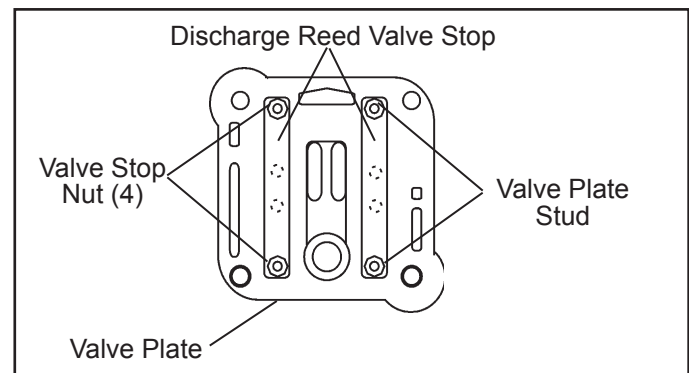

Figure 2 – Bendix® BA-921® Compressor Valve Plate
- Note:** In some instances it may be necessary to disassemble the discharge reed valves and valve stops to remove carbon. In that case refer to *Figure 2* and:
7. Note the position of the protruding alignment pins on the cylinder block. Install the metal inlet reed valve/gasket (2) over the alignment pins on the cylinder block.
9. Position and install the metal gasket (1) over the guide bushings protruding from the valve plate side of the cooling plate assembly. When properly installed, the outline of the gasket matches the outline of the cooling plate. Install the cooling plate with gasket (1) on the valve plate using the cooling plate guide bushings to locate and position both parts correctly.
10. Install the remaining gasket (1) over the guide bushings on the exposed side of the cooling plate assembly. Position and install the cylinder head over the alignment bushings protruding from the cooling plate assembly.